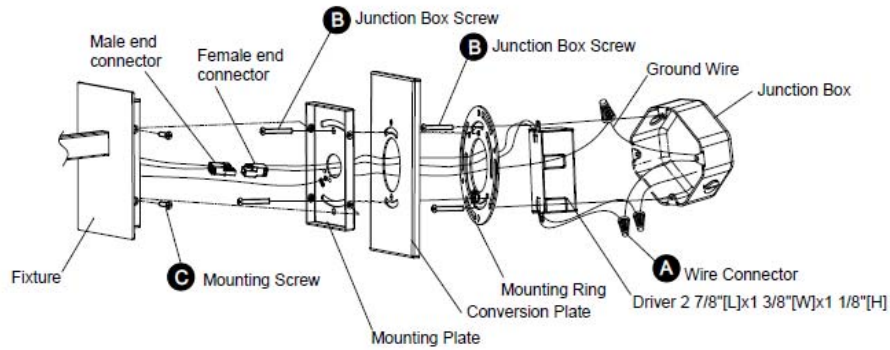

Fig. 2
MOUNT ON JUNCTION BOX (Fig. 2)
3. Secure the mounting ring to the junction box using the junction box screws (B). Make sure the two holes (Spacing 2-3/4") are horizontal as shown in Fig. 2. The side of the mounting plate marked "GND" must face out.
4. Secure the fixed block to the wall using the wood screw (F).
5. Secure the mounting plate and conversion plate to the mounting ring with junction box screws (B).
7. Place the fixture over the mounting plate and secure it with mounting screws (C). Secure them with screw using Allen wrench (E).
8. Thread the glass on the top of glass holder. Secure them with Allen screw (D) using Allen wrench (E).